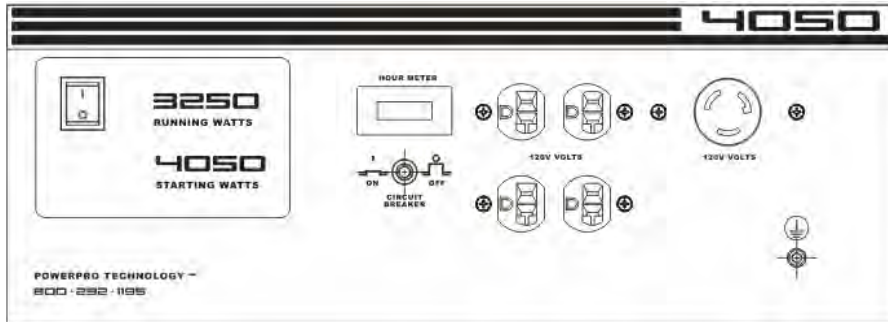

Figure 11- Receptacles available on the generator
1. Plug in each electrical device with the device turned off. **NOTE:** Be sure to attach appliances to the correct receptacles (outlets). Connect standard 120 Volt, single phase, 60 Hz loads **only** to the 120 Volt receptacles. Connect 120 Volt, single phase, 60Hz loads with a NEMA L5-30 plug **only** to the 120 Volt receptacle See Figure 11 for a depiction of each of these receptacles.